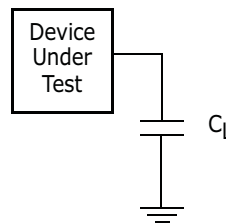

Figure 13.3 Test Setup
- See Figure 13.3 and Table 13.1 for test specifications